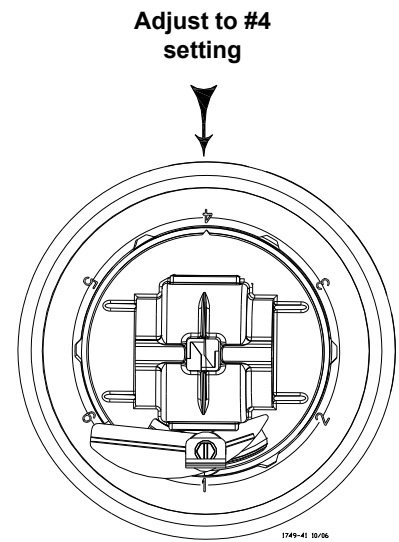

**Figure 27. Rotate brood adjustment prior to grill installation.**
2. Rotate brood adjustment until cover washer is flush with outer cone, see **figure 27**.